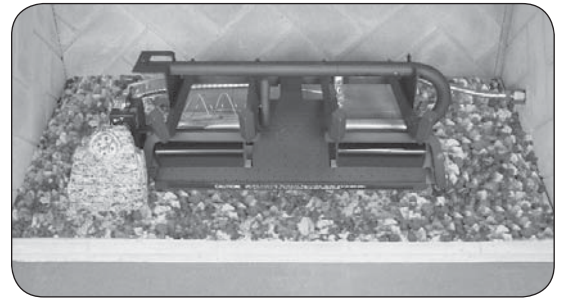

Fig. 17-1 Place lava granules
1. Spread the supplied lava granules on the floor of the fireplace; around the front and sides of the burner system (see Fig. 17-1).